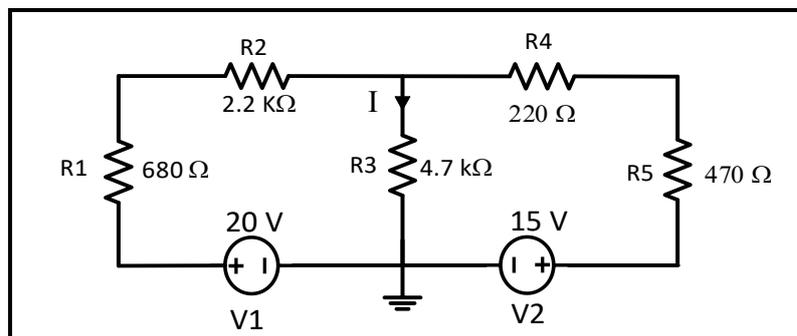

Figure 4.2
1. Use **PSPICE** to determine the voltages at all nodes and the current in all the branches for the circuits in **Figures 4.2 to 4.4**.
1. Connect the circuit of Figure 4.2 and set the power supply voltages as indicated.